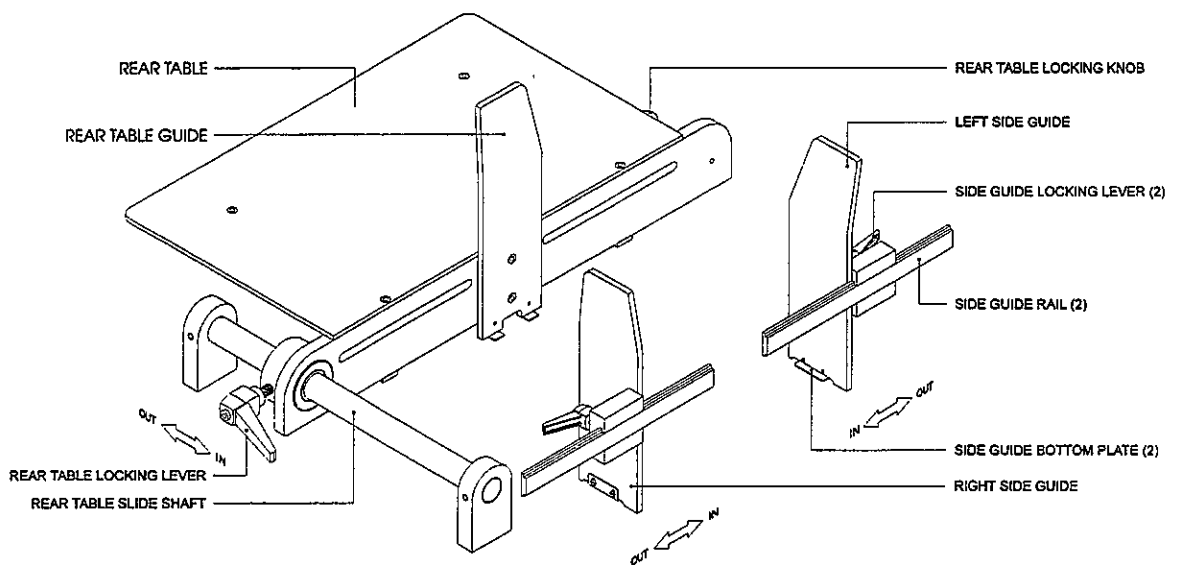

Figure 2.5 - Rear table and side guide illustration indicating the various adjustment points when setting up the hopper material guides.
☞ To Set the Feeder Side Guides (see figure 2.5)
☞ To Set Rear Table (see figure 2.5)
8. Set the rear table as per instructions provided in ☞ *To Set Rear Table (see figure 2.5)*. Ensure that the rear pushers do not remain under the mailpiece stack when the shuttle plate is fully back. If the pushers do in fact remain under the bottom mailpiece, repeat steps 2 to 7.